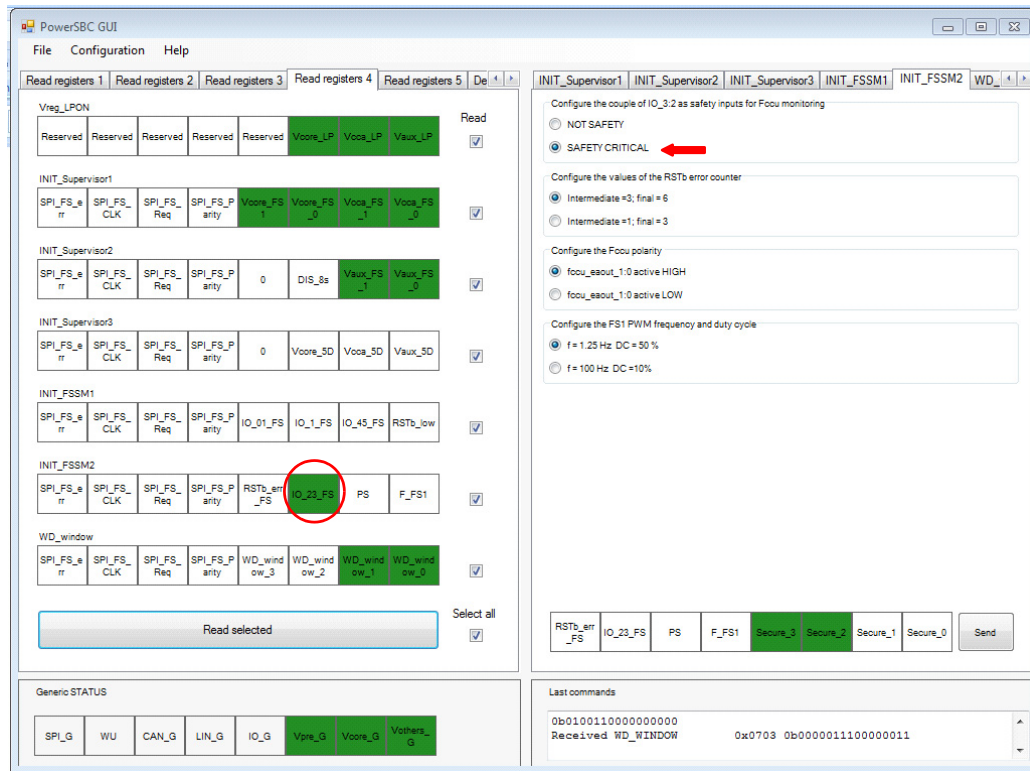

Figure 11. MC33907_8 GUI Main Screen
- Figure 11 shows the status of several registers at startup. In this example, register INIT_FSSM2 has bit IO_23_FS configured as SAFETY CRITICAL.